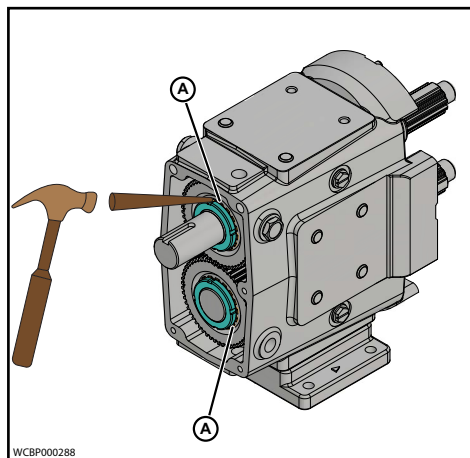

Figure 94 - Bend Locking Tab
7. Bend the locking tab (Figure 94, item A) on the lock washers into the locking nut slots, securing the gear locknut into place.